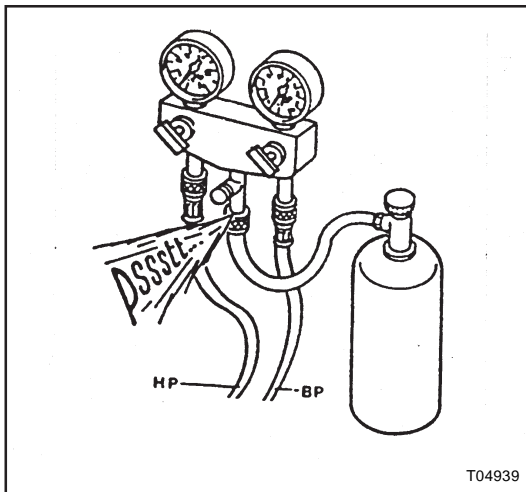

Figure 35: Purge charging hose
12. Crack-open (vapor side) dispensing valve of container, purge charging hose and tighten hose fitting (see Figure 35).
14. Observe the sight glass and fill the system until the ball in the lower sight glass is on the top. The ball in the upper sight glass must not float. Charging is now completed. Check again items 4 and 5 of this procedure.